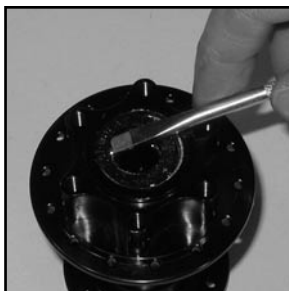

Fig. 5D
6. Insert a thin screwdriver blade under the shell shield (Fig. 5D) and pry off the shell shield from the left side of the hub.